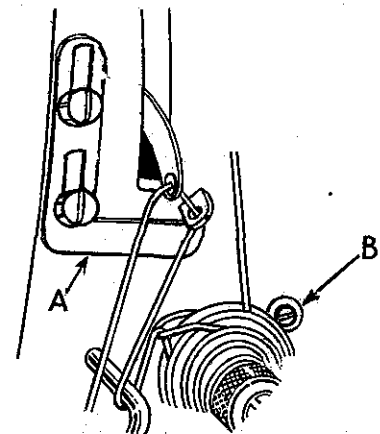
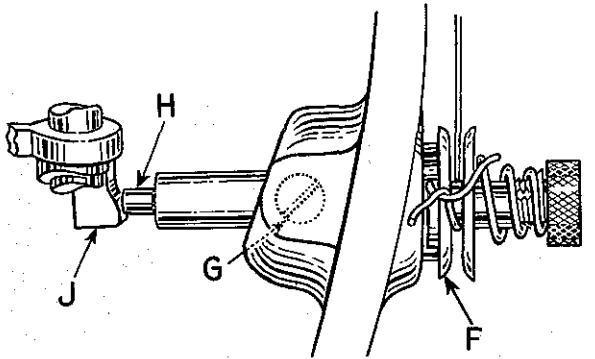

Fig. 11
Fig. 12
Test check spring tension (A, Fig. 10). There should be enough tension to insure a good returning snap when spring is depressed and released. Should it require adjusting, loosen set screw in the head on right side of tension post (G, Fig. 12) and remove tension post assembly. Partially loosen tension post set screw (B, Fig. 10) in tension post socket (C). Holding the socket in the left hand, turn the tension post (D) counterclockwise with the right hand until
The frame take-up eyelet (A, Fig. 11) should be set at its highest position.
The tension assembly should be located in bed from front to back, so that when the presser foot is raised to its highest position, the tension discs (F, Fig. 12) are opened just enough to allow the thread to pass through the discs freely.
Re-tighten set screw (G), turn tension assembly adjusting screw (B, Fig. 11) counterclockwise until it contacts the flange of the tension post socket.
To position the tension assembly, see that set screw in bed (G, Fig. 12) is loose and tension assembly adjusting screw (B, Fig. 11) is screwed down to the bed.
Lift the presser foot hand lifter to its highest position. With the left hand, grasp the thread and pull it through the tensions, with the right hand, push tension post deeper into the machine until release pin (H, Fig. 12) pressing against the presser bar connection (J) has opened the tension discs just enough to allow the thread to pull through freely.